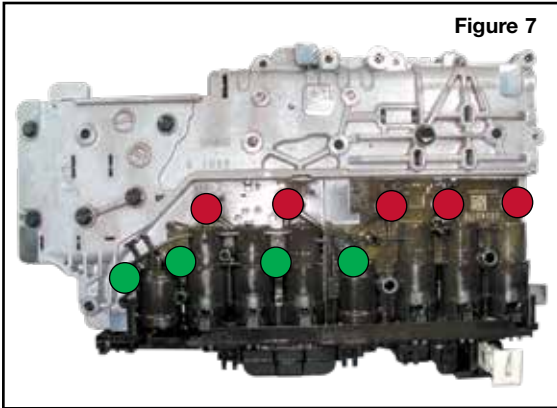

Figure 7
- Remove the four 10mm head and five 7mm head bolts (**Figure 7**). Remove the TEHCM and set aside for inspection, testing and cleaning.
- Install the four 10mm head and five 7mm head bolts and *hand-tighten only* (Fig. 7).